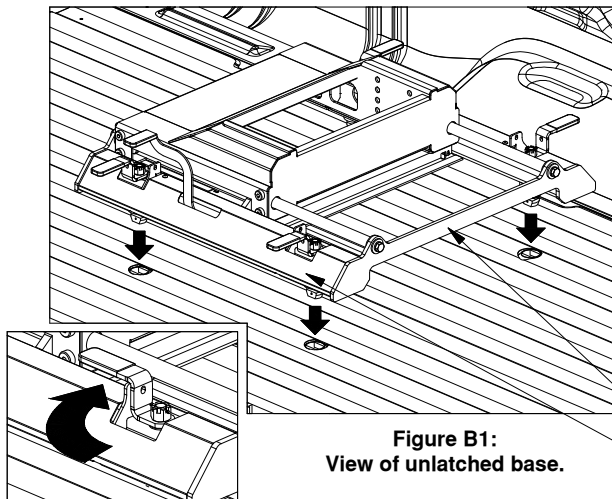

Figure B1:
CAUTION: Lifting the slider base under the sheet metal covers may cause damage to the base, grip base by end rail supports to lift, see Figure B1.
- Remove the latch pins from each side of the base and rotate the handles out, see figure B1. Place the base over the attachment points and carefully lower it until the latch cams pass through the floor and the base rests flat against the top of the attachment points.